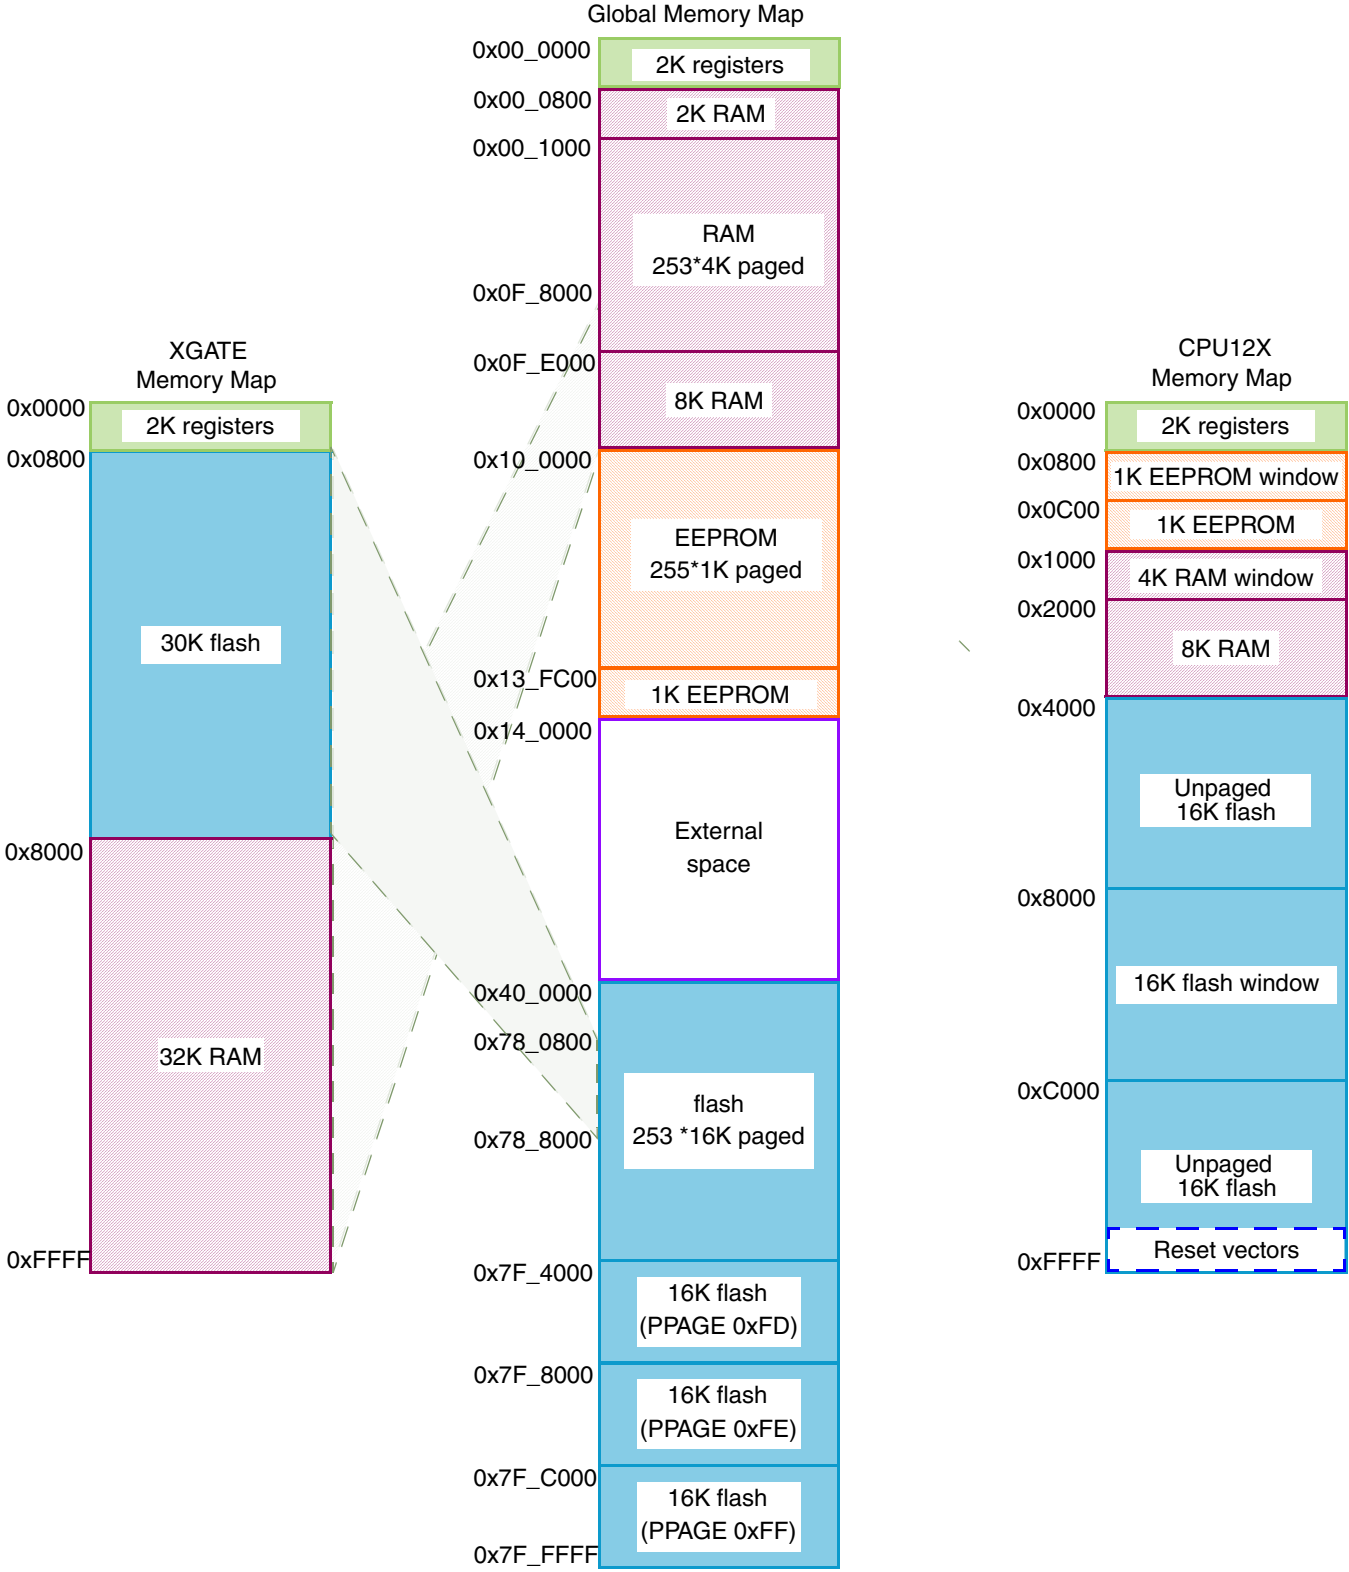

Figure 2. S12X(E) Memory Map
Figure 2 shows the memory map of an S12X(E) device.